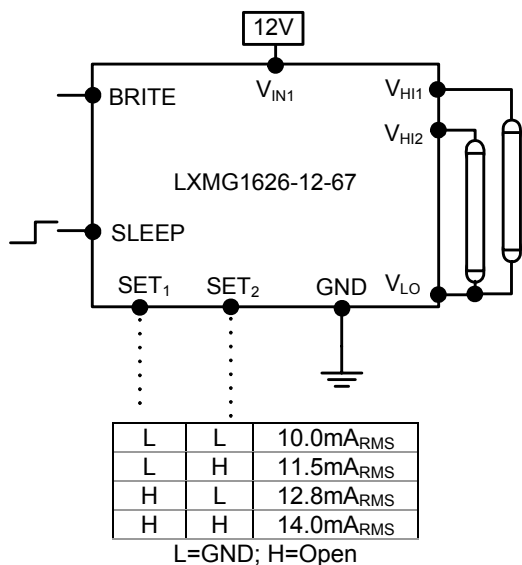

Figure 2 – Max Output Current
- Use the **SET₁** and **SET₂** (see Figure 2) inputs to select the desired maximum output current. Using these two pins in combination allows the inverter to match a wide variety of panels from different manufactures. Generally, the best lamp lifetime correlates with driving the CCFL at the manufactures nominal current setting. However, the **SET₁** and **SET₂** inputs allow the user the flexibility to adjust the current to the maximum allowable output current to increase panel brightness at the expense of some reduced lamp life.